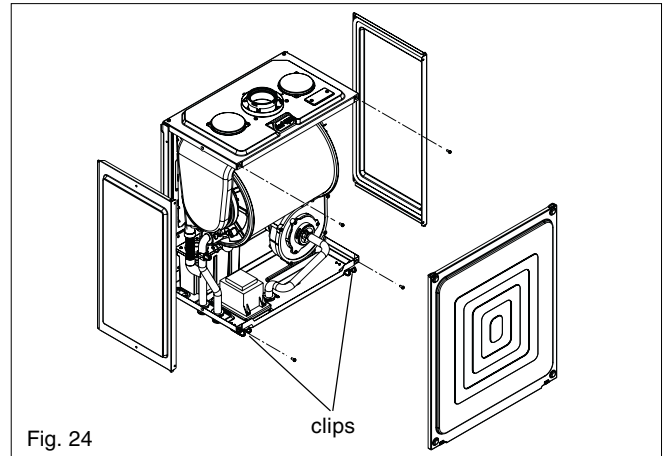

Fig. 24
6.4.1 AIR BOX FRONT COVER REMOVAL (fig. 24)